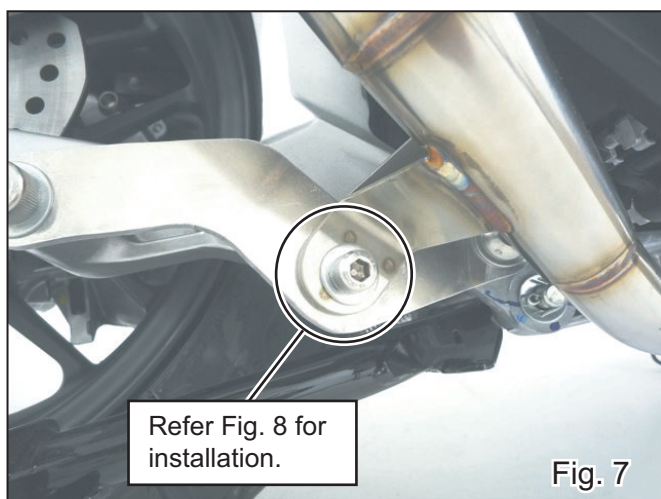

Fig. 7
- 7) Fix Exhaust Pipe onto Exhaust Pipe Bracket with Cap Bolt M8x20, Washer M8x20 and Flange Nut M8. Tighten bolt by hand only at this stage. (See Fig. 7 & 8)